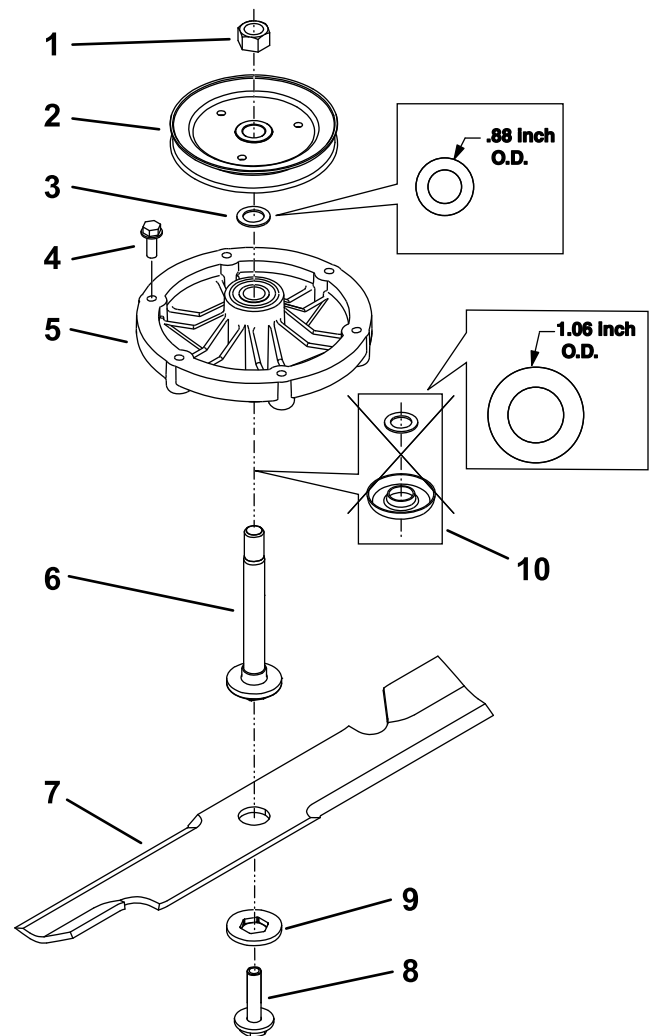

Figure 1
8. Remove the existing spindle housing. Retain all hardware and spindle as shown in Figure 1. Discard the existing washer and bearing shield shown in Figure 1.
9. Install the spindle housing provided in this kit onto the mower deck and tighten the screws to 200-250 in-lb (23-28 N-m) (Figure 1).
12. Apply lubricant to the threads of the blade bolt as needed to prevent seizing. Copper based anti-seize is preferable. Grease is an acceptable substitute. Reinstall the blade and sheave as shown in Figure 1. Refer to the *Operator's Manual* for more information on blade installation.